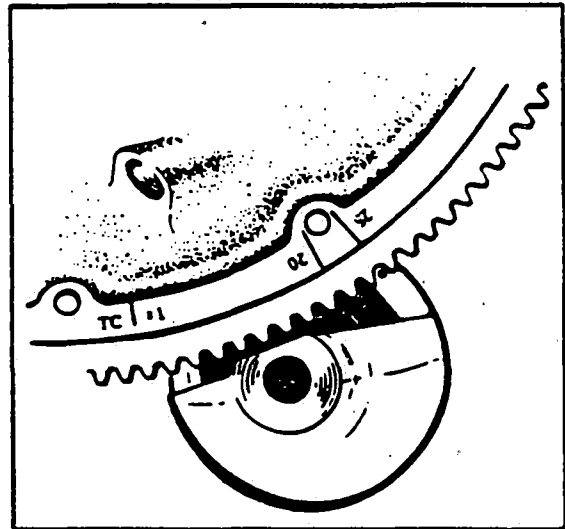

Figure 8-13. Engine Timing Marks
b. Remove the top spark plug from No. 1 cylinder. Place the thumb of one hand over the spark plug hole and rotate the crankshaft in direction of normal rotation until the compression stroke is reached. The compression stroke is indicated by a positive pressure inside the cylinder tending to lift the thumb off the spark plug hole. In this position, both valves of No. 1 cylinder are closed. Turn the crankshaft opposite to its normal direction of rotation until it is approximately 35 degrees BTC on the compression stroke of No. 1 cylinder. Rotate the crankshaft in its normal direction of rotation until the 25 degrees mark on the back of the starter gear and the crankcase parting flange are aligned, or the marks on the front of the starter ring gear and the drilled hole in the starter housing align. Refer to Figure 8-13.
- j. Turn the crankshaft very slowly in direction of normal rotation until the timing mark on the front face of the ring gear aligns with the drilled hole in the starter, as shown in Figure 8-13, or the timing mark on the back of the ring gear aligns with the crankcase parting surface. At this point, the light should go out.